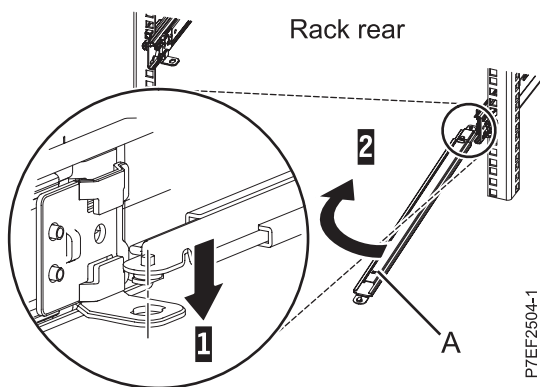

Figure 12. Connecting the support arm
1. The cable-management arm must be installed on the right side of the server, when you are facing the server from the rear, as shown in Figure 12. Connect one end of the support arm (A) to the right slide rail (1) so that you can swing the other end of the support arm toward the left side of the rack (2).